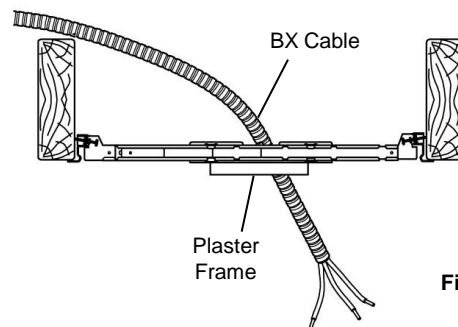

Fig. 9
3. Run armored cable (BX) or non-metallic (NM) cable (also known as Romex) from your circuit breaker or fuse panel to the plaster frame hole, providing 6” (15,2 cm) to 8” (20,3 cm) of slack extending below the hole. Cable having up to 12 AWG wiring may be used. (Fig. 9) **(WARNING - Use cables having wires rated 90°C or more.)**